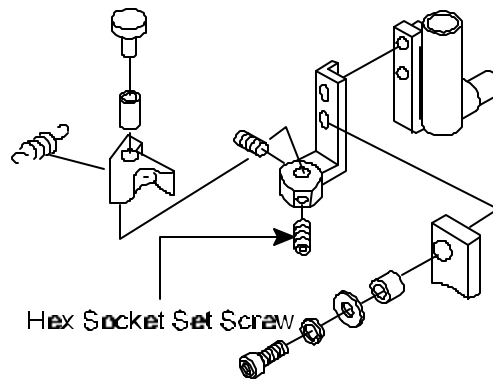

Figure 2
5. **Using** a 2 mm Allen Wrench, **loosen** hex socket set screw. See *Figure 2*.